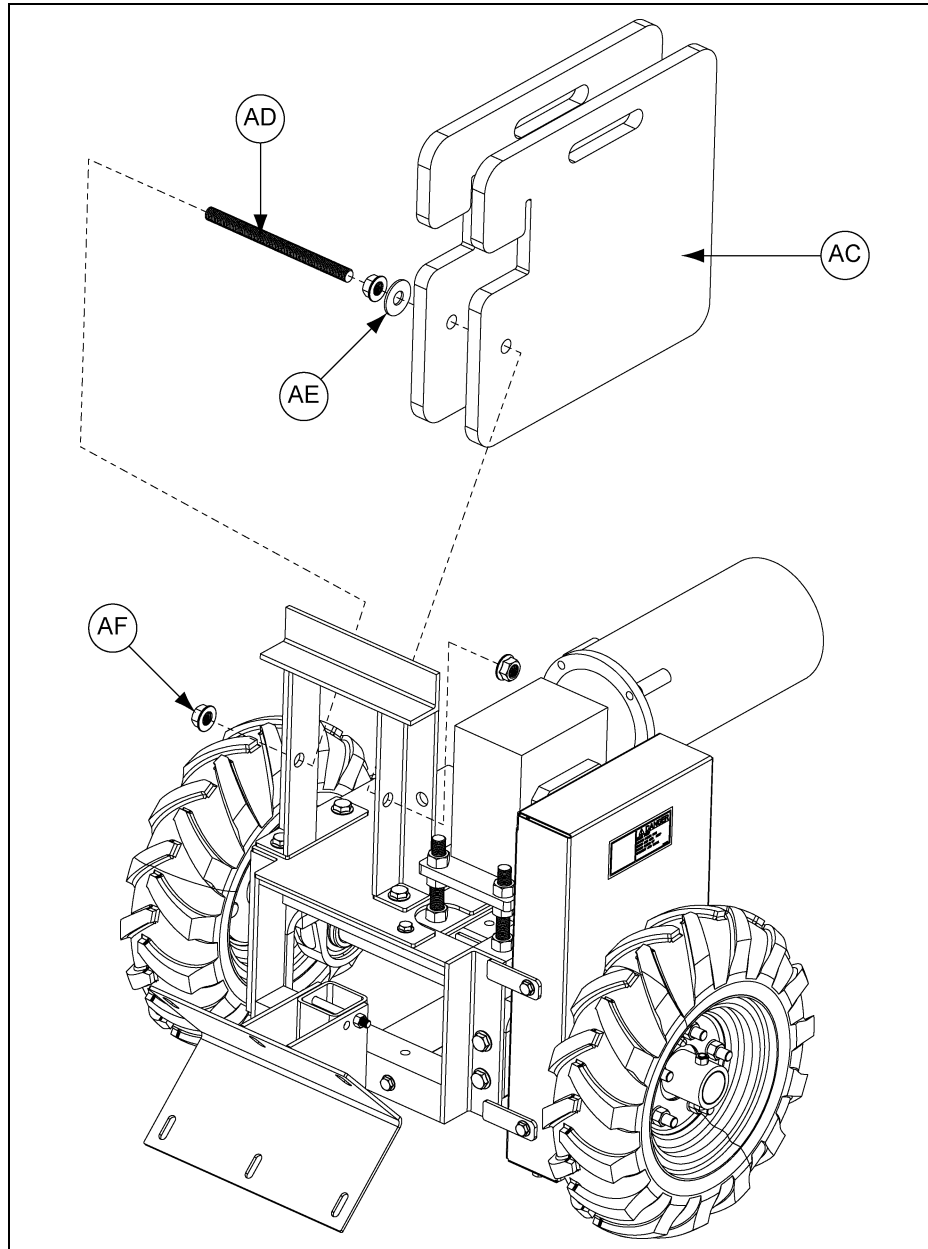

Figure 4K
21. Mount the weights (AC) to the weight stand using one 5/8"-11 x 8-1/2" threaded rod (AD) and three (3) flange nuts (AF) and one flat washer (AE). (See Figure 4K.)